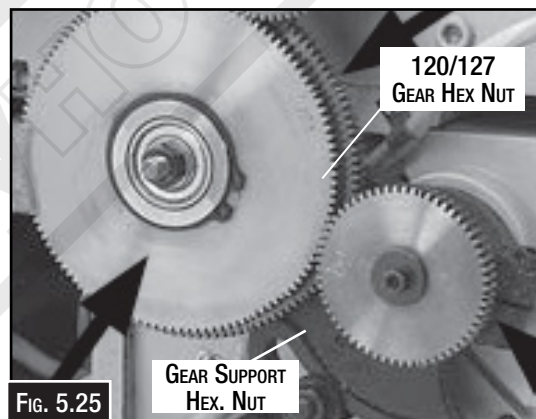

FIG. 5.25
4. While holding the 120T/127T gears, loosen the arm by undoing the gear support hex nut and slowly let the gears pivot down and away from the upper top gear, as illustrated. (Fig. 5.25)
5. Loosen the 120T/127T gear hex nut and slide the middle gear away from the bottom gear. The 120T/127T gears may need to be reversed. Undo the 120T/127T gear hex nut (Fig. 5.25) and reverse the gears.